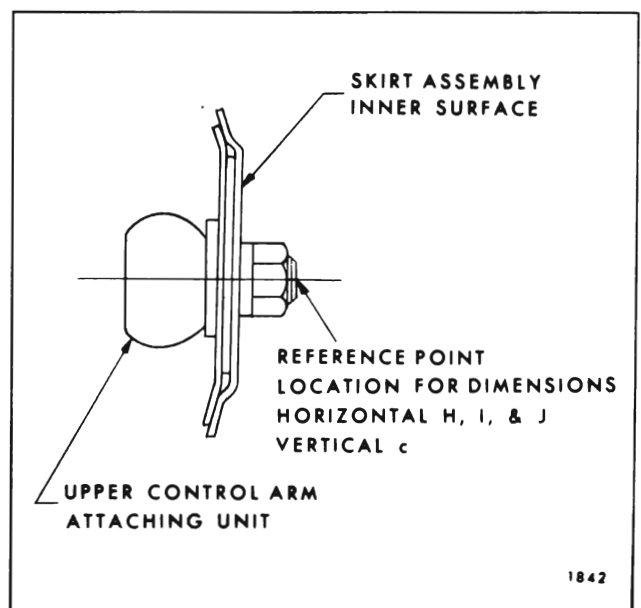

Fig. 3-11—Upper Control Arm Rear Attaching Stud
- c 18-5/16 Center of front suspension upper control arm rear attaching stud center of thread end (See Fig. 3-11).